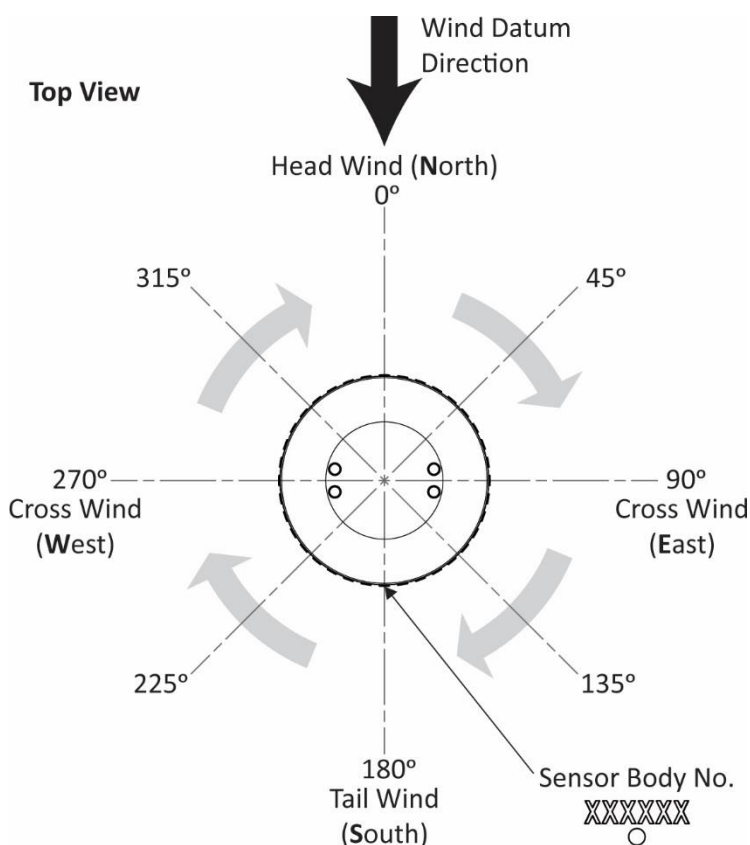

Figure 4: Outline Dimensions, Assembly & Wind Direction Reference (Compass Disabled)
The FT742-SM is fitted with a solid-state electronic compass so that the wind direction can be measured relative to magnetic North. The wind direction can be measured either relative to magnetic North, or by programming the sensor with the geographical location declination angle, relative to true North. The compass function can also be disabled if required so that the wind direction is measured relative to the datum mark on the wind sensor body (as per Figure 4). The compass heading can also be read back at any time using the CF command. See Section 7.4.6 for full details of the CF command. Both the Polar format (P) and NMEA 0183 format (N) outputs provide wind direction data relative to North (if the compass function is enabled). The NMEA 0183 message also has a field that indicates whether the compass module is enabled or disabled.